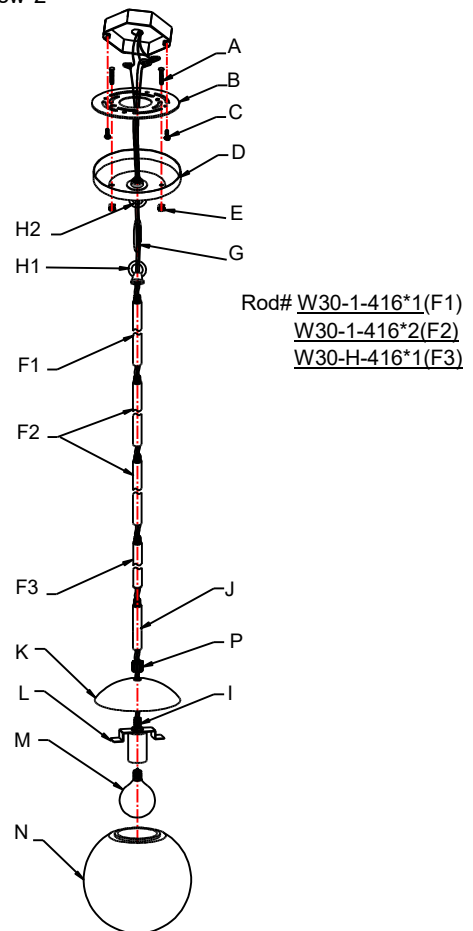

Fig. 2
CONNECTING THE WIRES (Fig. 2)
11. Connect the electrical wires as shown in fig 2, making sure that all wire connectors are secured. If your outlet has a ground wire (green or bare copper), connect the fixture's ground wire to it. Otherwise, connect the fixture's ground wire directly to the circular strap (B) using the green screw provided.
12. Tuck the wire connectors neatly into the ceiling junction box and then raise the canopy (D) to the ceiling.